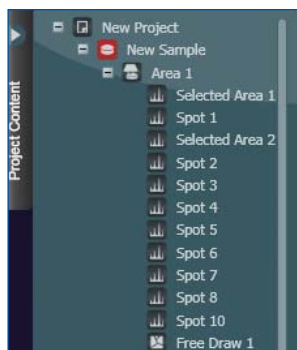

Figure 1: Project Tree Panel.
- ◆ Double click on a spectrum in the project tree to activate that spectrum in review mode. See Figure 1.